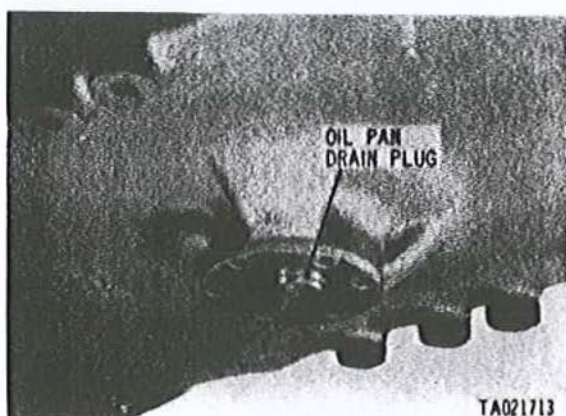

Figure 2-93. Oil pan drain plug location.
Provide suitable container with approximately 20 gallon capacity (minimum). Remove oil pan drain plug (fig. 2-93) and drain oil.
(2) Install oil pan drain plug (fig. 2-93).